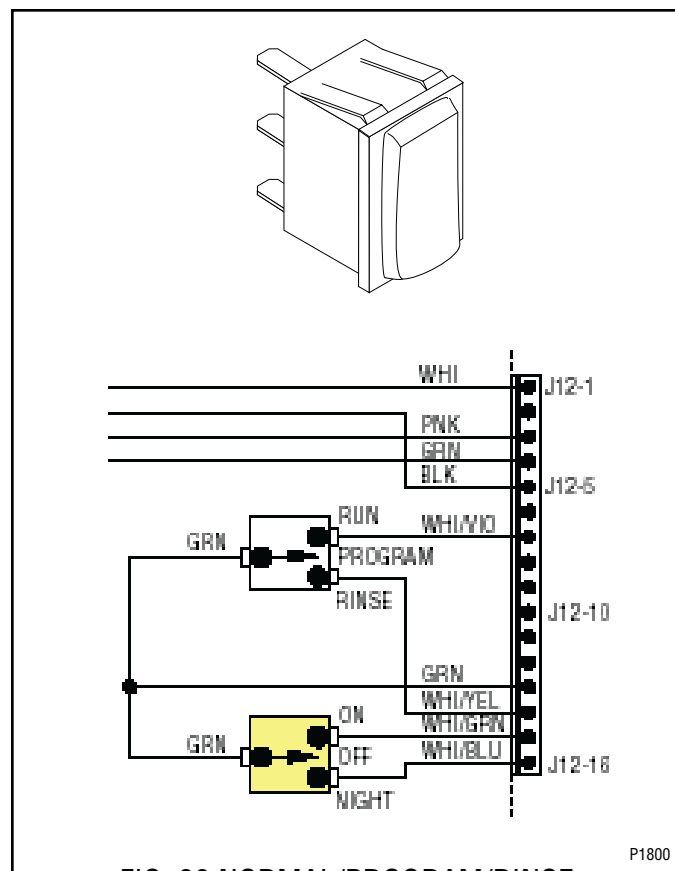

FIG. 39 NORMAL/PROGRAM/RINSE SWITCH TERMINALS
4. Refer to Fig. 39 when reconnecting the wires.